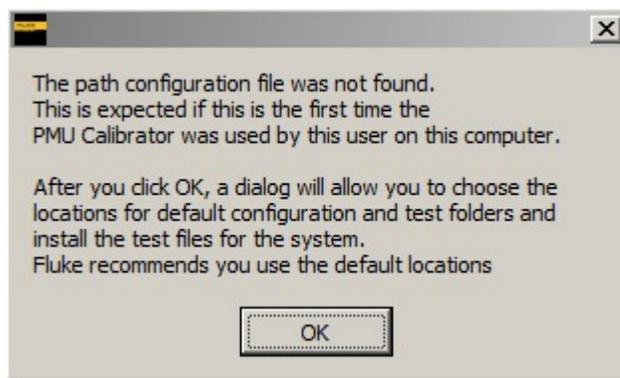

Figure 2-3. First Time Setup
When the Calibration Software is opened for the first time, the software automatically opens the Folder Location Settings menu (see Figure 2-3 and Table 2-1) to set up the file storage location. After the folder location is set, the separately supplied test files must be installed using the option from the Folder Locations Settings menu.
1. After clicking on OK in the message shown in Figure 2-3, the Folder Location Settings screen will be displayed. Refer to Table 2-1.